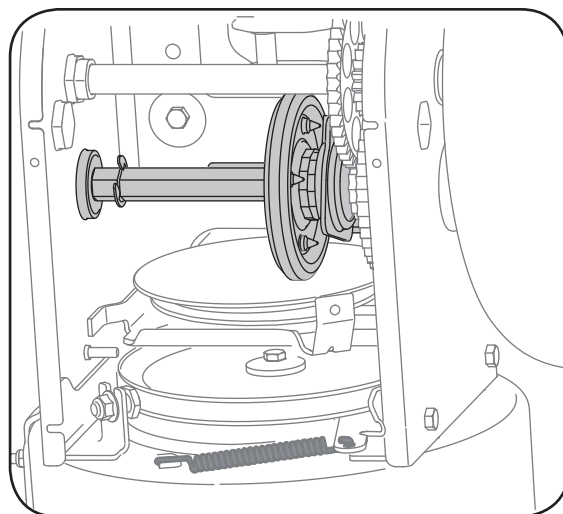

Figure 14
2. Apply a light coating of an all-weather multi-purpose grease to the hex shaft. See Figure 14.